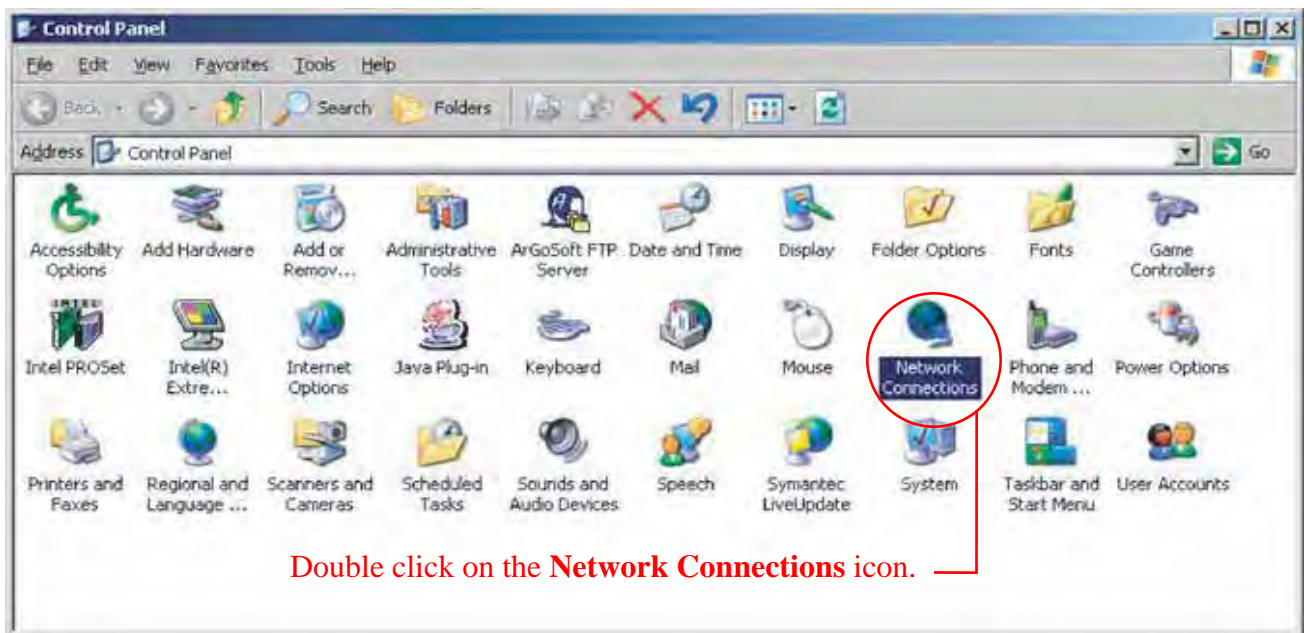

Figure 5-12. Network Connection Icon
3. Go to **Control Panel, Network Connection, New Connection Wizard** (Figures 5-12 and 5-13). Windows® 2000 users, see paragraph 5.2.3 (screens not shown).